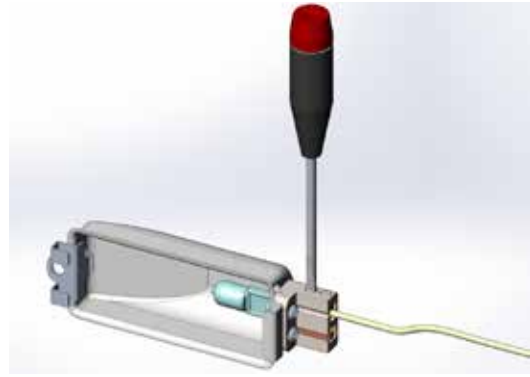

Figure 11
3. If needed, use a small flat-blade screwdriver to carefully pry off the lens and set aside. Loosen the 2 screws closest to the lamp housing (Fig. 11). These screws hold the bulb in place. The bulb should come out easily. The bulb is a 20W halogen "Bi-Pin" type, available at most hardware stores & home centers.